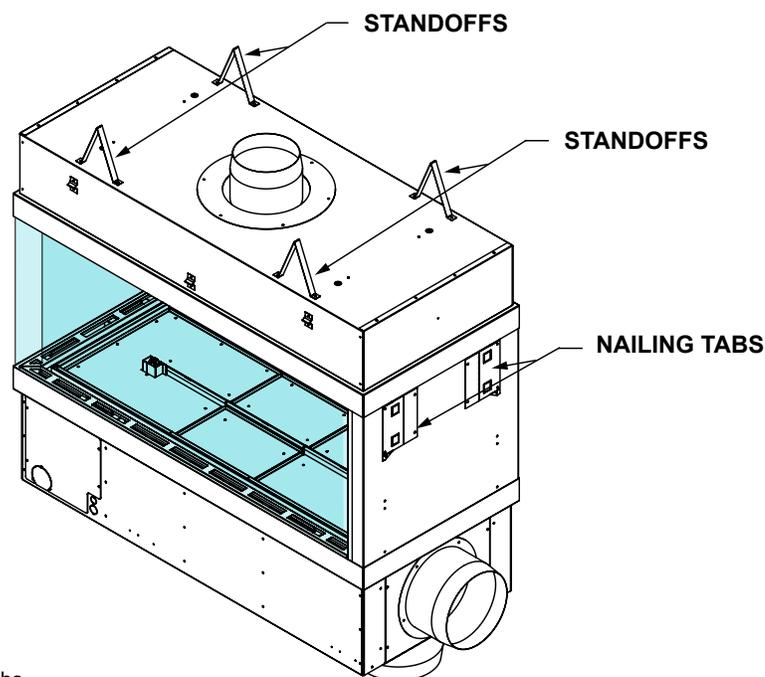

Figure 4A.3
STEP 1: Refer to Figure 4A.1
STEP 2: Refer to Figure 4A.2
Fold the center of the standoff up and both ends out at the perforated lines. Using Figure 4A.2 for reference, locate the second pre-installed screw on the firebox top at each standoff location. Remove the screw, pivot the folded standoff into location and re-install the screw to secure the standoff. Tighten up the screw that was loosened in Step 1.
Bend the two (2) small tabs out on each nailing tab at the perforated lines. Using Figure 4A.3 for reference, locate the pre-drilled holes on the firebox side each nailing tab will be placed at.